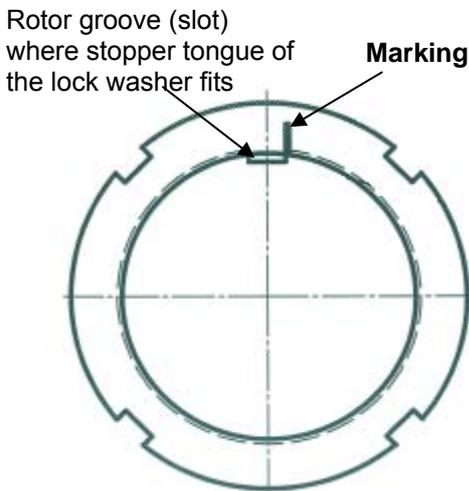

Figure 7-16 Position where mark is put
- Put a mark on the lock nut at the right side edge of the rotor groove where the stopper tongue of the lock washer fits, as shown in Figure 7-16.